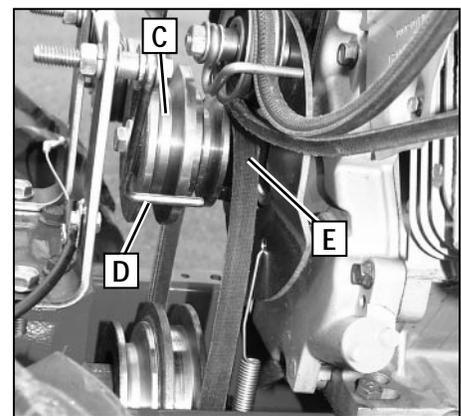

Figure 5-16 : Right-side view.
4. Slide the belt off the engine pulley (C, Figure 5-16), away from engine, out from under the belt guide (D), and completely off the pulley.
- Reconnect the forward clutch cable to the correct hole in the idler arm bracket, as shown in Figure 5-16.